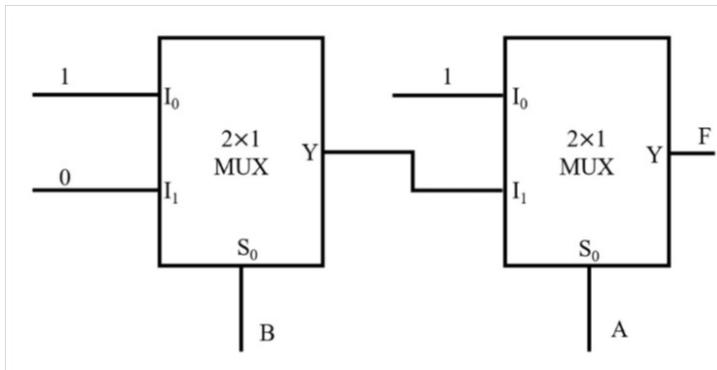

Fig. 4.18
35. The output F of the digital circuit shown in Fig. 4.18 can be written in the form(s) \_\_\_\_\_.